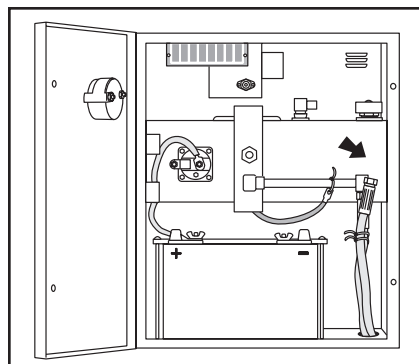

Figure 10
7. Locate the hydraulic fuse "stored" in the end of the hydraulic line inside the cabinet. (Figure 10)